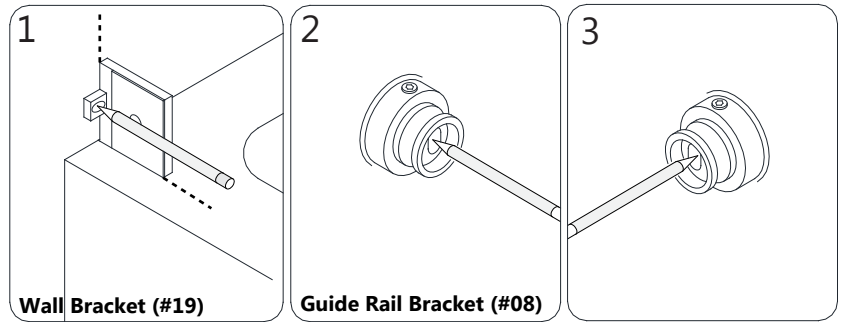

**Fig 8**
**7.** Mark the **Guide Block (#12)** position and the holes for drilling on the threshold. (Make sure the **Guide Block (#12)** is square to the **Stationary Glass (#02)**). Measure the distance from the door-side wall to the far edge of the **Guide Block (#12)**. This distance will be "**X**". The **Anti-Splash Guard (#15)** will need to be cut to the size of: **X (-) 3/8"**. Insert the **Anti-Splash Guard (#15)** into the **Guide Block (#12)** and align the **Anti-Splash Guard (#15)** parallel to the front edge of the threshold or tub deck and mark its position on the threshold. **(Fig. 8)**